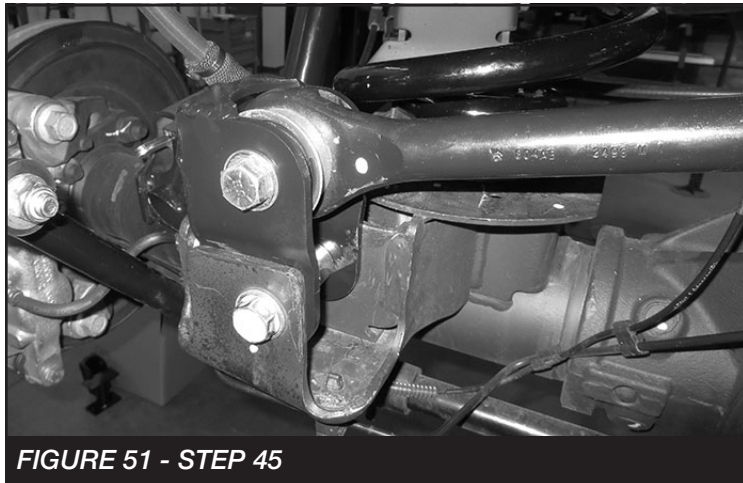

FIGURE 51 - STEP 45
45. Install the rear track bar into the new bracket using the supplied 9/16" x 3-3/4" bolt, washers and nut. Torque to 184 ft-lbs. **SEE FIGURE 51**